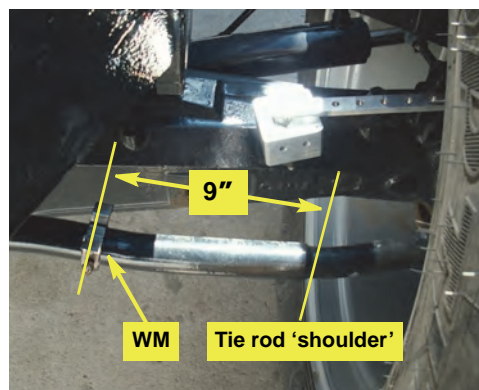

Figure 2d: Link rod clamp installed
d. Install clamp **WM** on the tie rod with its flanges uppermost and horizontal (even though tilted sideways by the bend in the tie rod). Set the clamp's centerline 9" from the shoulder where the tie rod narrows (Figure 2d).
- e. Route extension cable **EB**, SWS cable **EF** and the power cable to the battery in/out of the cab through the access hole in the back of the cab on the right side (Figure 2d and bottom inset). Outside the cab (Figure 2d top inset), use cable ties **ER** to secure cables with other cables or plumbing when routing the cables to the steering controller connectors or the battery.
Figure 2d with insets: Cabling into (or out from) cab